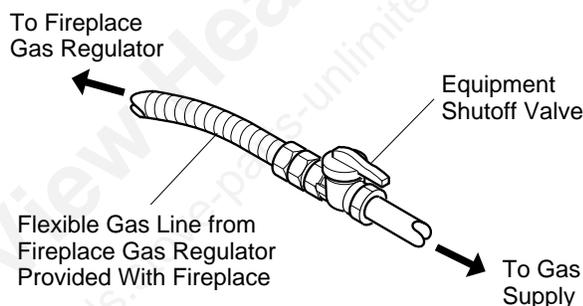

Figure 25 - Attaching Flexible Gas Line to Equipment Shutoff Valve
4. Apply pipe joint sealant lightly to male threads of gas connector attached to flexible gas line/equipment shutoff valve (see Figure 25).